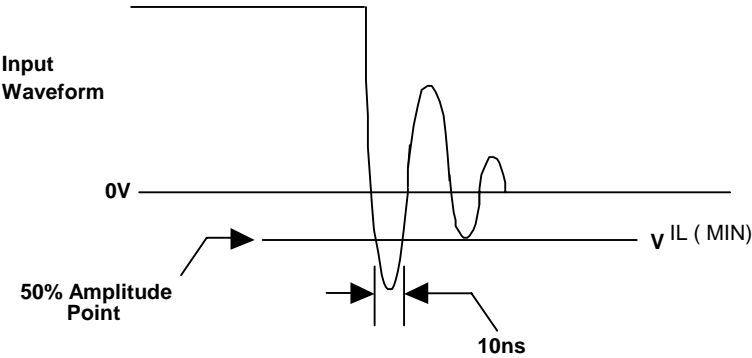

Figure 5: Input Signal Waveform.
- 1.0 Volts for a duration of 10 ns measured at the 50% amplitude points for Input-only lines (see Figure 5 on page 19).
1. -1.0 Volts for a duration of 10 ns measured at the 50% amplitude points for Input-only lines (see Figure 5 on page 19).